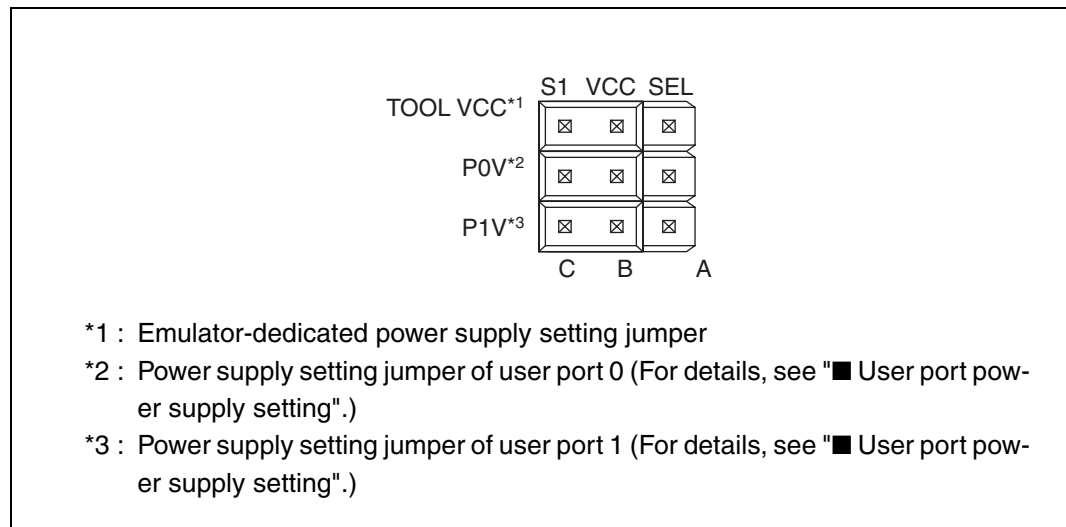

Figure 13 Emulator-dedicated power supply setting jumper
Figure 13 shows the emulator-dedicated power supply setting jumper. Table 5 lists the settings of the jumper.
*1 : See Figure 13 for the position of the user port power supply setting jumper.